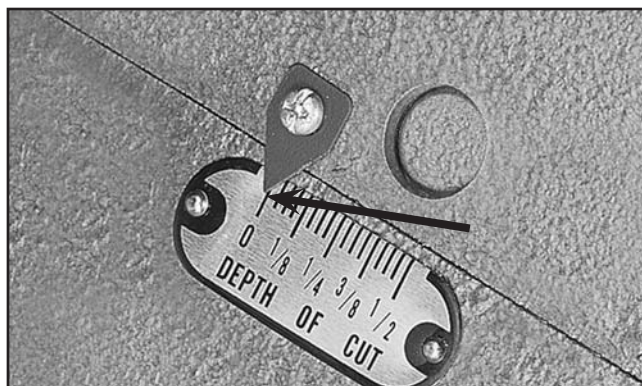

Figure 46. Depth-of-cut pointer adjusted to "0" position.
4. Using a screwdriver, adjust the scale pointer exactly to "0" (**Figure 46**).